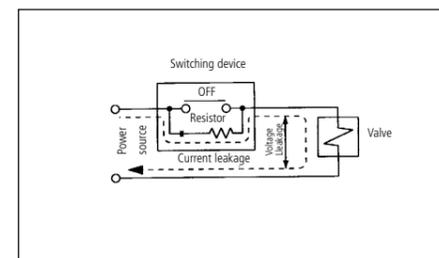

Fig 12
3. Loosen the terminal screws on the block and insert the stripped leads in accordance with the wiring diagram (Fig.12). Secure each lead by re-tightening the appropriate terminal screw.
Leakage voltage (Fig 12)